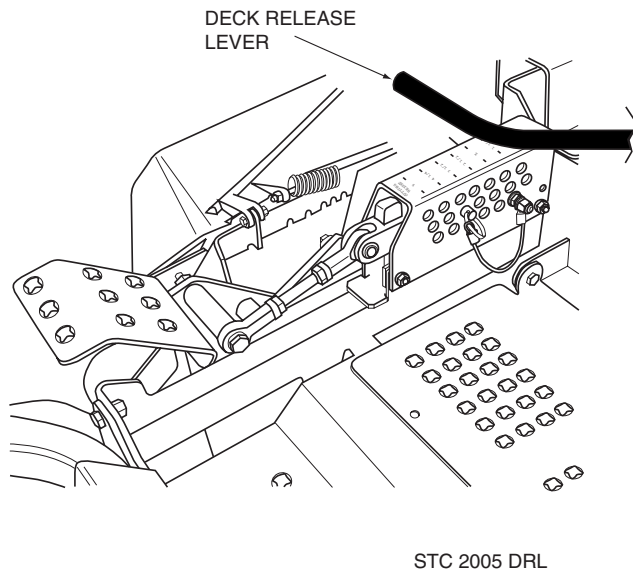
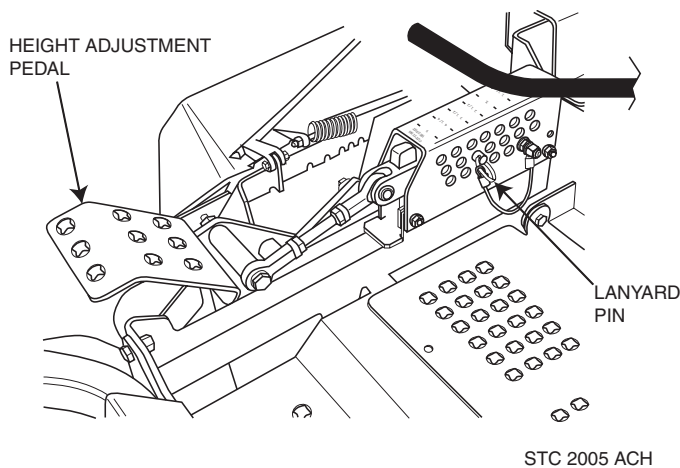

Figure 4-4 Deck Release Lever
Figure 4-5 Adjusting Cutting Height
2. Push the cutting height adjustment foot pedal all the way forward using your right foot until it locks in place. (Figure 4-5, page 18)
3. Insert the lanyard pin into the cutting height index at the desired cutting height. Push forward on the deck lift foot lever, hold in place and lift up on the deck release lever, (Figure 4-4). Slowly release the foot pedal. A deck height decal is located on the cutting height index as an aid in adjusting the deck to the desired height. (Figure 4-5)